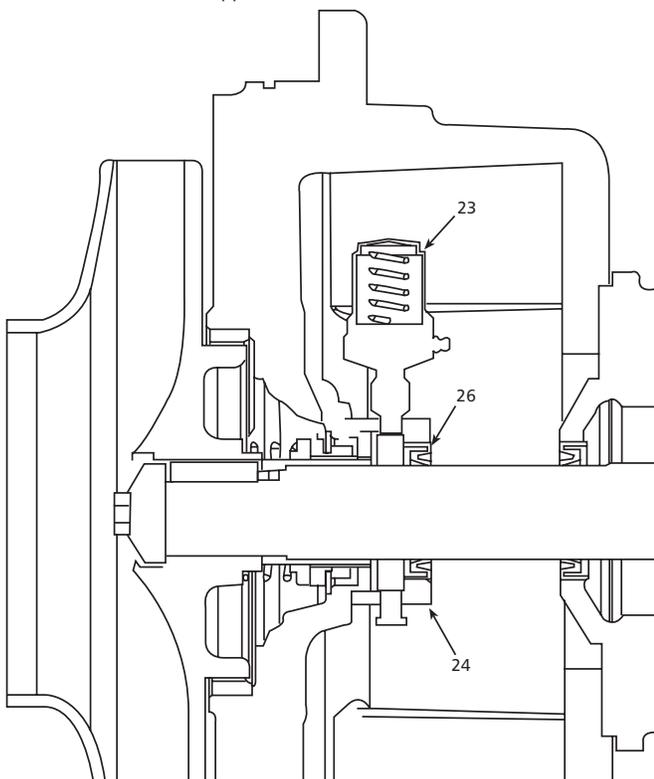

Figure 15
- For grease feed applications, the grease gland is assembled with the “G” stamp in the 12 o’ clock position. The grease feeder (23) will mount in the grease gland at a 30 degree angle from the horizontal. This is done to gain access to the grease fitting located on the grease feeder. The lip seal (26) mounted in the grease gland will be assembled as shown in Figure 15.